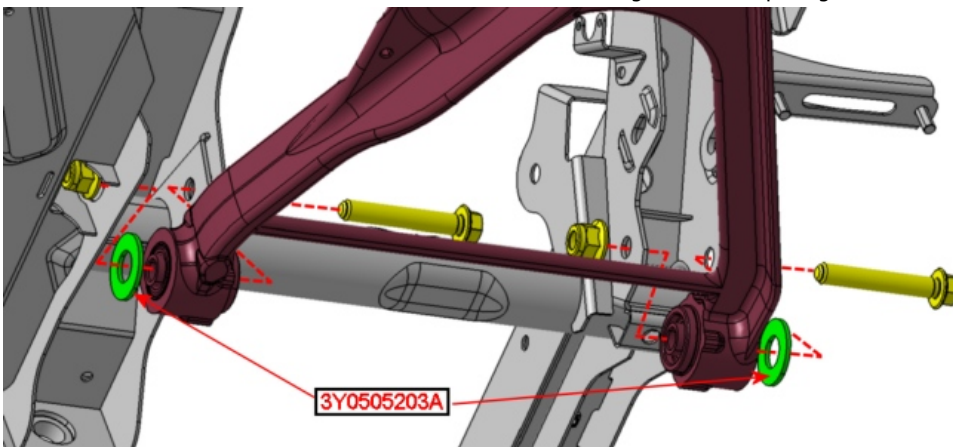

Figure 2
- Once the lower lever bushing is deemed to be serviceable then refit the lower levers Rep.Gr.42 incorporating one new isolation washers (part number 3Y0505203A) between the outer edge of each inner bushes and the rear subframe (see Figure 2 and 3)